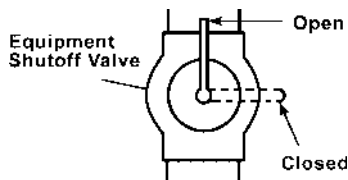

Figure 14 -Equipment Shutoff Valve
1. Close equipment shutoff valve (see Figure 14).
3. Check all joints from propane/LP supply tank to equipment shutoff valve (see Figure 14). Apply mixture of liquid soap and water to gas joints. Bubbles forming show a leak.
1. Open equipment shutoff valve (see Figure 14).